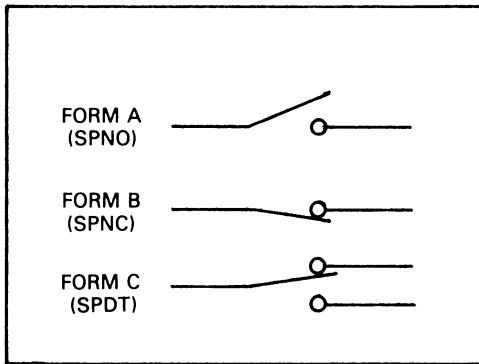

Figure 2-3. Switch Terminology
1. Form A is a single pole normally open (SPNO) switch. Refer to Figure 2-3. Example: A 2-pole switch normally open is classified as a 2 Form A.
2. Form B is similar to Form A except that its contacts are normally closed. Refer to Figure 2-3. Example: A 2-pole switch normally closed is classified as a 2 Form B.
3. Form C is shown in Figure 2-3 as a single pole double throw switch. It could also be a multiple switch such as a 2-pole. This would be classified as a 2 Form C.